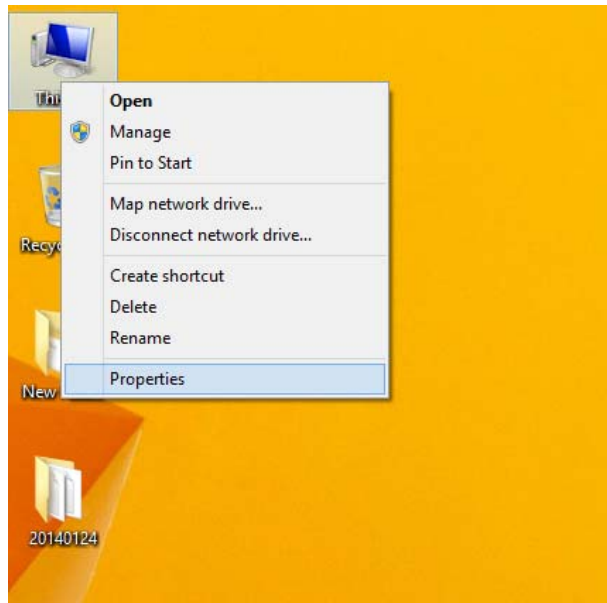

Figure 6-13: PC Properties
Step 1: Right-click This PC icon on the desktop and select **Properties**. (Figure 6-13).